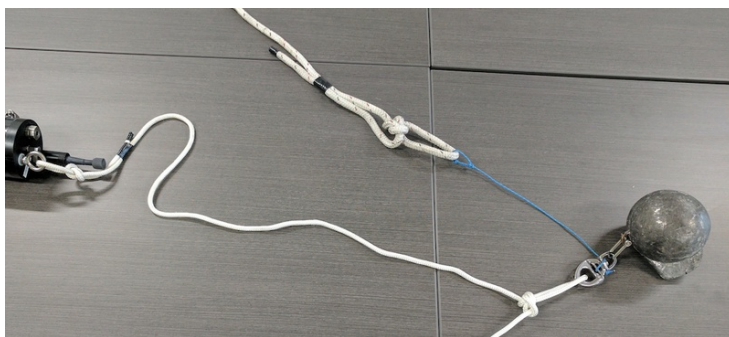

Figure 22: Weight release mechanism fully assembled
5. Lay the instrument tether and the release tether on the deck, ensuring that the two are not tangled and attach the snap shackle to the bight (Figure 22).